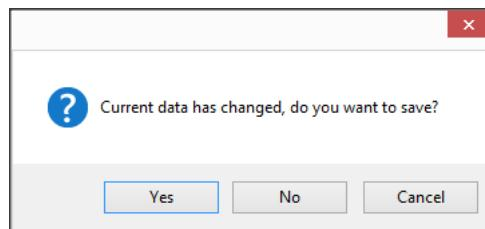

Figure 9.19: The **Save Changes** dialog box
- ▶ answer 'No' in the dialog box that asks whether you want to save your data (see Figure 9.19),